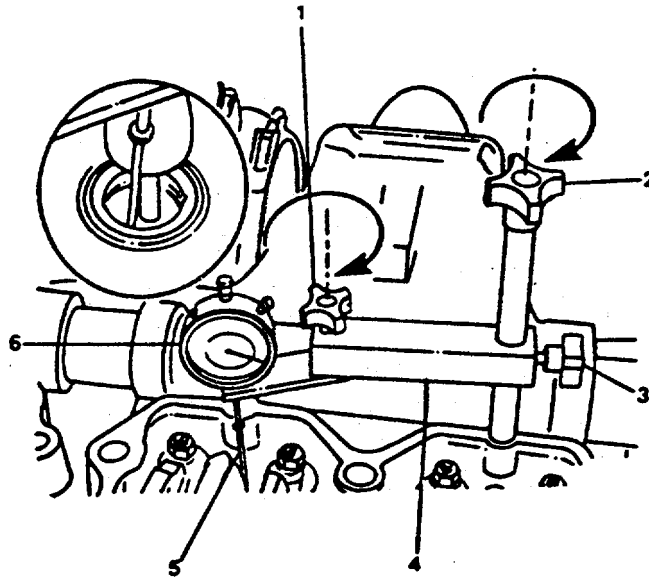

FIGURE 2-40. *Installing Dial Indicator and Support.*
- (c) Install the dial indicator (6, FIGURE 2-40) and the support (4) from the injector adjustment kit so that the extension (5) for the dial indicator (6) is on top of the injector plunger flange on cylinder No. 3.
- (d) Secure the thumbscrew (1) and capscrew (2).
- (e) Loosen the thumbscrew (3) and lower the indicator (6) against the injector plunger flange until the stem is fully compressed.
- (f) Raise the indicator (6) approximately 0.025 inch (0.653 mm) and secure the thumbscrew (3) to hold the indicator (6) in position.